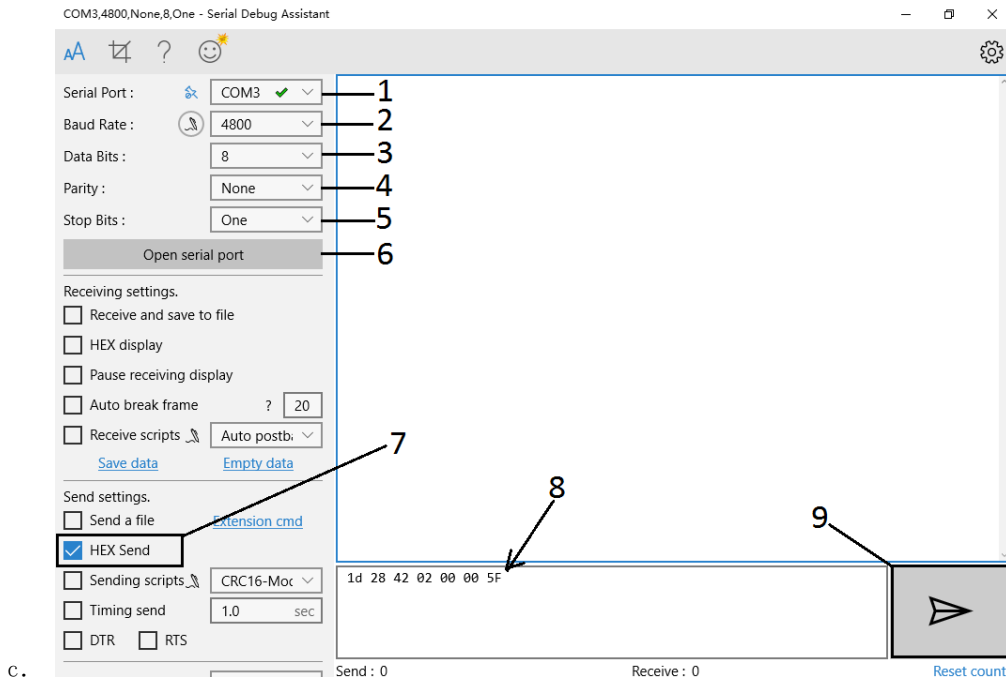

Figure 2-5.1
- b. Use the serial debugging assistant as shown in Figure 2-5.1 to set up (Software Link <https://www.microsoft.com/en-gb/p/serial-debug-assistant/9nblggh43hdm?activetab=pivot:overviewtab>)
Follow steps 1-9 as shown in figure 2-5.1.